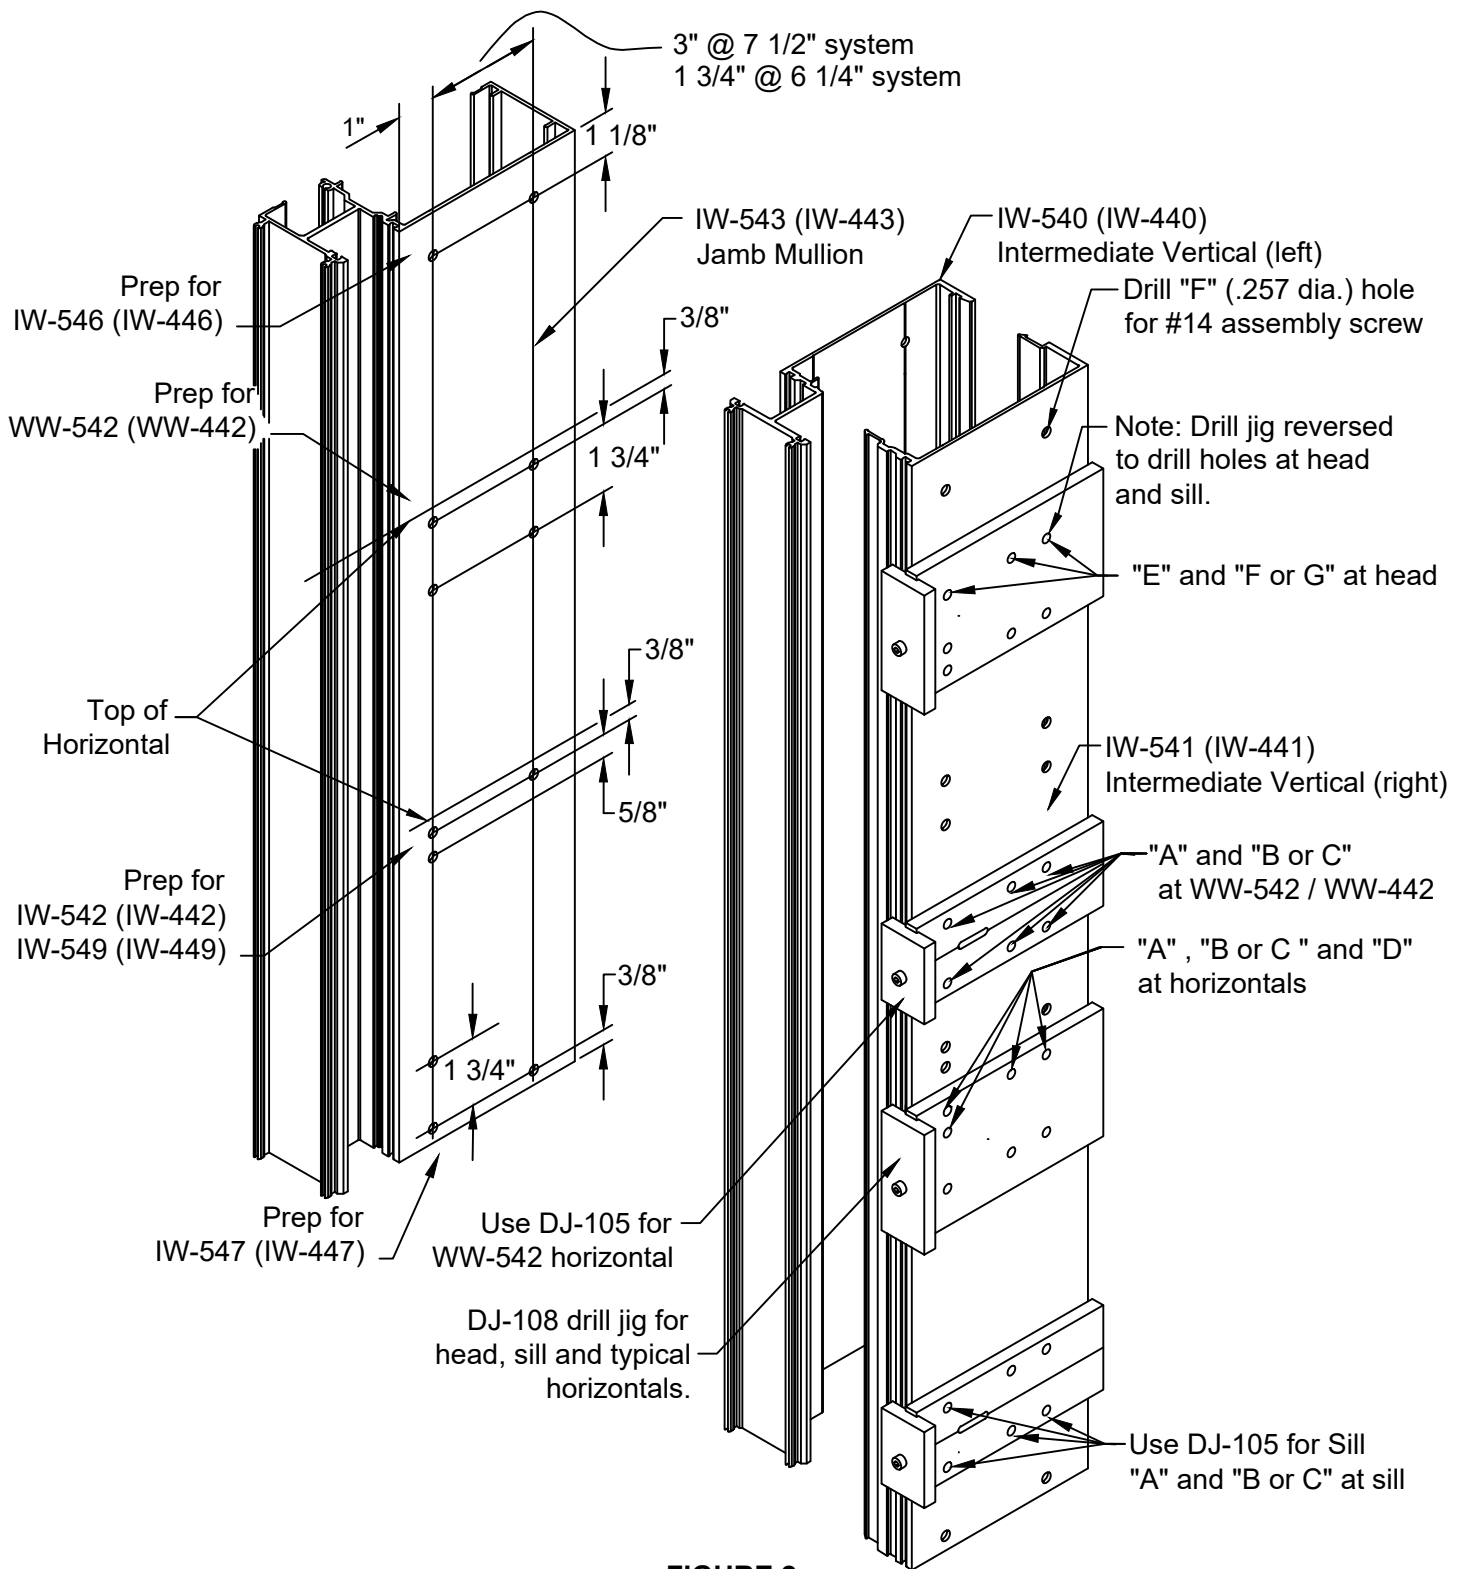

FIGURE 2
- 1.3 Fabricate vertical mullions for horizontal members with EZ Punch tooling or DJ-108 drill jig. See FIGURE 2, page 6 for hole locations. Use 'F' drill (.257 dia.) for assembly screws. Prep for head and sill will be drilled by aligning drill jig with ends of mullions. Prep at intermediate horizontals, mark line at top of horizontal and align drill jig with that line as shown in FIGURE 2, page 6. Use DJ-105 for fabrication of WW-542 exterior glazed horizontal, drill all four holes.